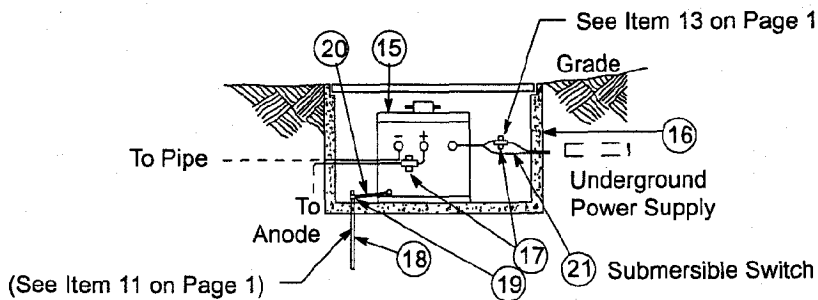

Figure 2
2. Added the submersible switch (Component 21) to Figure 2 on Page 2 and Table 2 on Page 3.